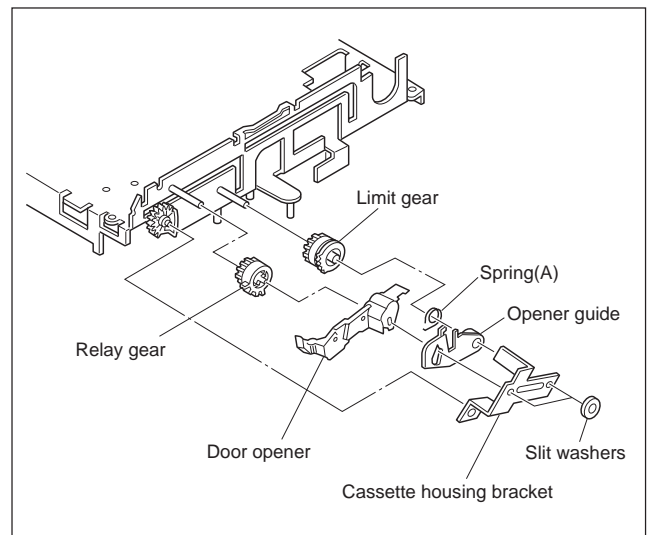

Fig.3-2-3b
- (2) Remove the two slit washers and remove the cassette housing bracket. (See Fig.3-2-3b.)
- (3) Remove the opener guide, spring(A), door opener, relay gear and limit gear. (See Fig.3-2-3b.)